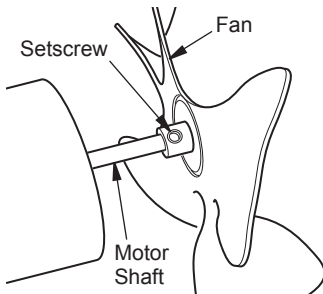

Figure 6 - Fan, Motor Shaft, and Setscrew Location
IMPORTANT: Remove fan from motor shaft before removing motor from heater. The weight of the motor resting on the fan could damage the fan pitch (see Figure 6).
3. Use 1/8" Allen wrench to loosen setscrew which holds fan to motor shaft (see Figure 6).